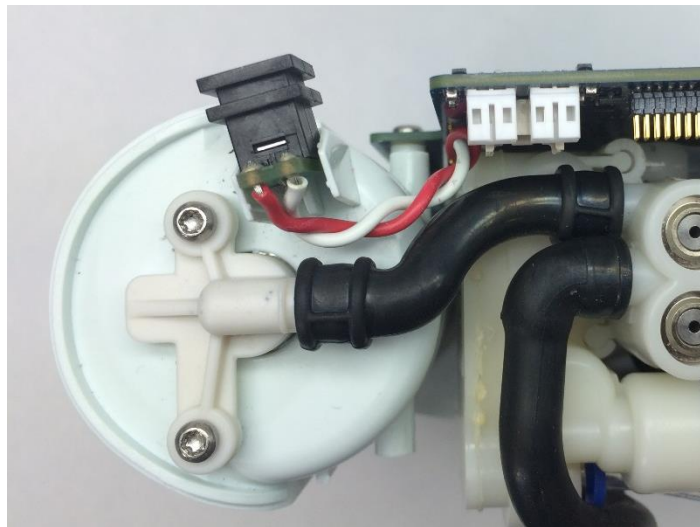

Figure 8: Properly installed power cable
3. Install the new power cable by connecting it to the motherboard and aligning the power plug in its designated position on the chassis (Figure 8).